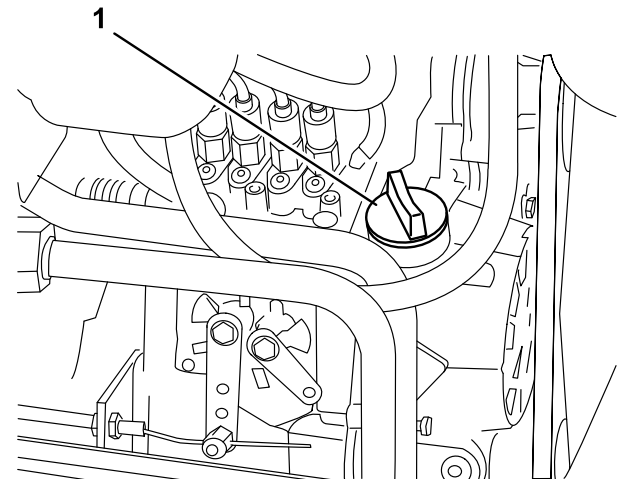

Figure 30
3. If oil level is low, remove filler cap (Figure 30) and add oil until level reaches FULL mark on dipstick. Do not overfill.